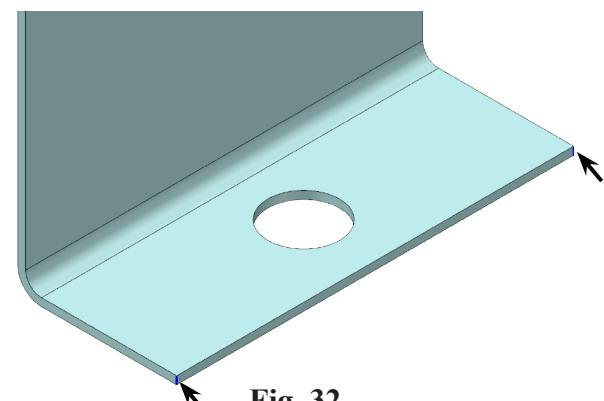

Fig. 30
Step 1. Zoom-in on flange. Use F1 and make a zoom window around flange, Fig. 30.